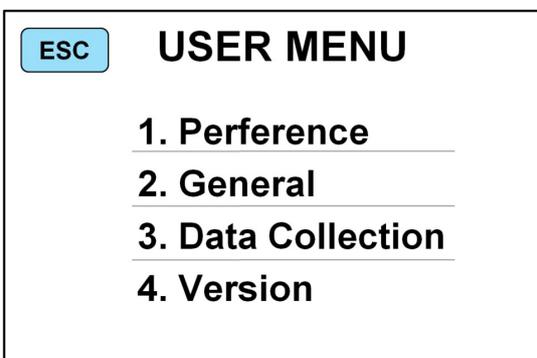
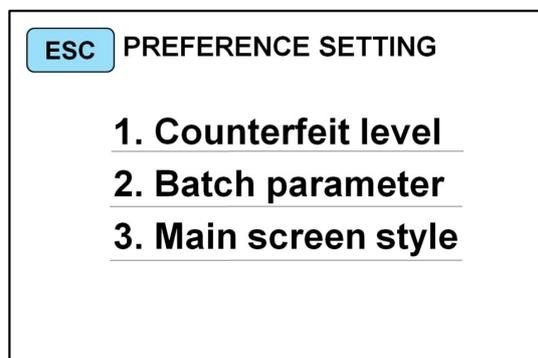

Figure 26
Figure 27
1) Press the “” key to enter the main interface of USER MENU, as shown in Figure 26 below. Press “1.Preference” to enter into PREFERENCE SETTING interface as Figure 27.